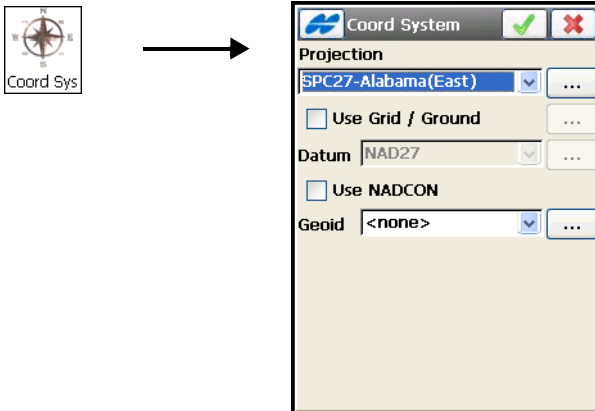

Figure 3-77. Coordinate System
To configure coordinate system details for the job, tap the *Coordinate System* icon. The **Coordinate System** screen displays coordinate system information for the job (Figure 3-77 on page 3-81).
- Pressing the ok  button saves the changes and returns to the *Coord System* screen (Figure 3-77).